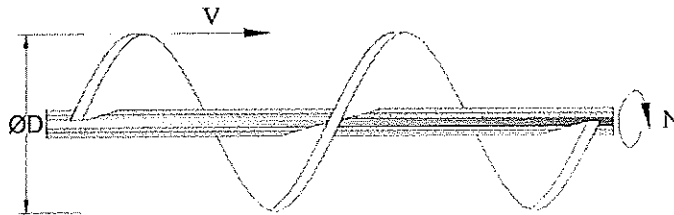

Figure Q5
- (c). The thrust (T) of a screw propeller (as shown in Figure Q5) is depends on the diameter (D), speed of advance (V), revolution per second (N), fluid density ( $\rho$ ) and the coefficient of viscosity ( $\mu$ ). Show that , 8 marks